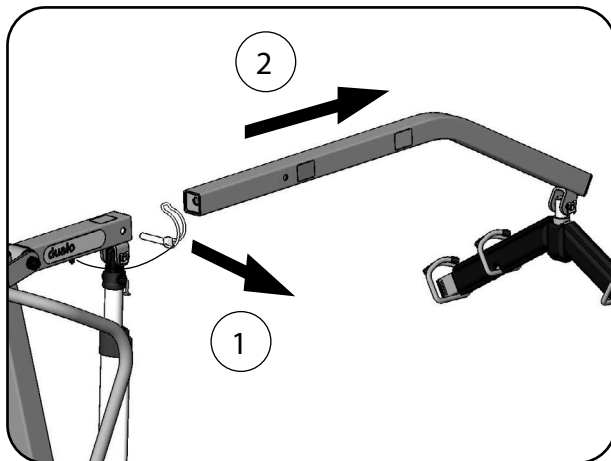

Fig. 8.8.01 – Removing the standard lifting arm
1. Remove the tube clip from the lifting arm holder (Fig. 8.8.01).
2. Pull the standard lifting arm out of the lifting arm holder and put it to one side (Fig. 8.8.01).